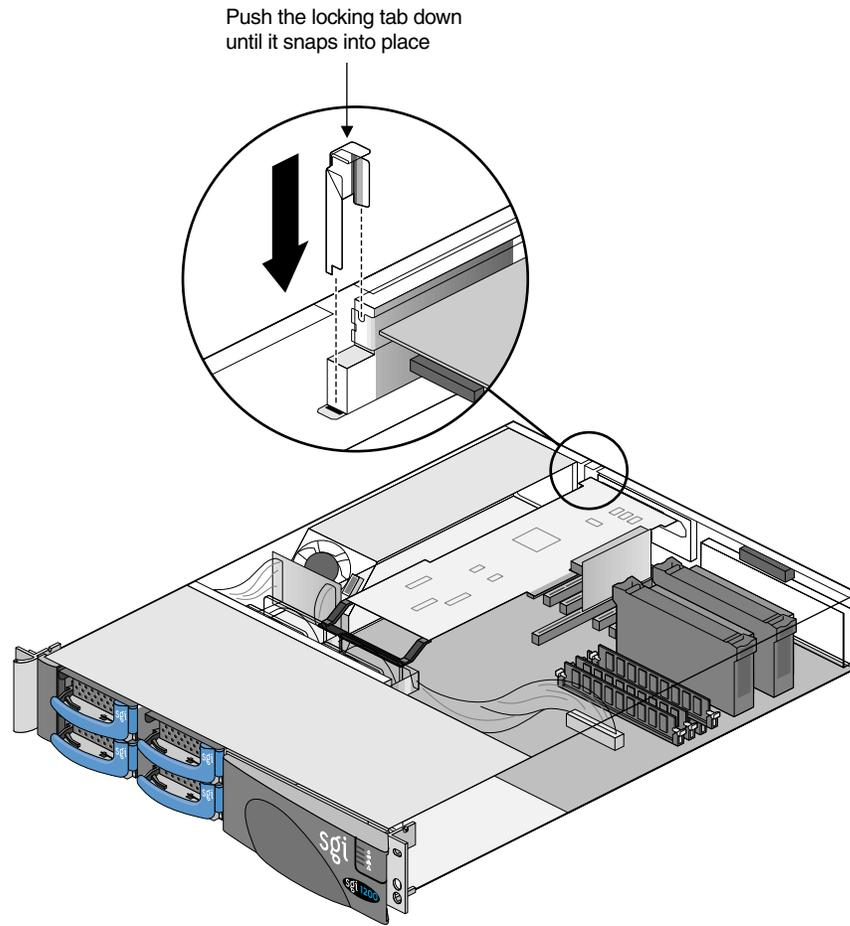

Figure 4 Securing PCI Card with a Locking Tab
4. With the long leg of the locking tab oriented toward the power supply location, press the locking tab down firmly until it snaps into place. See Figure 4.